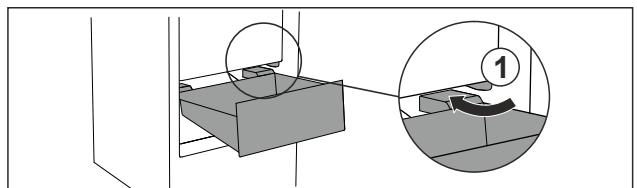

Fig. 60
- ▶ Guide drawer in at an angle around the stoppers Fig. 60 (1).